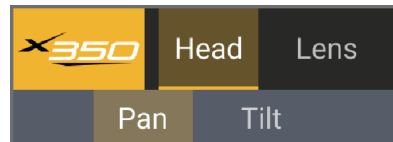

Figure 32 - The Head Tab, with the Pan Axis Tab Selected
- Head tab** — Includes sub-tabs for the **Pan** and **Tilt** axes (**Figure 32**).